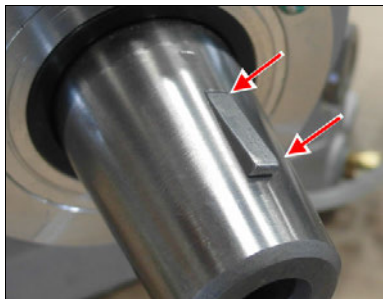

FIGURE 48: INSTALLING THE CLUTCH
5. Install the clutch on the compressor shaft (figure 48).